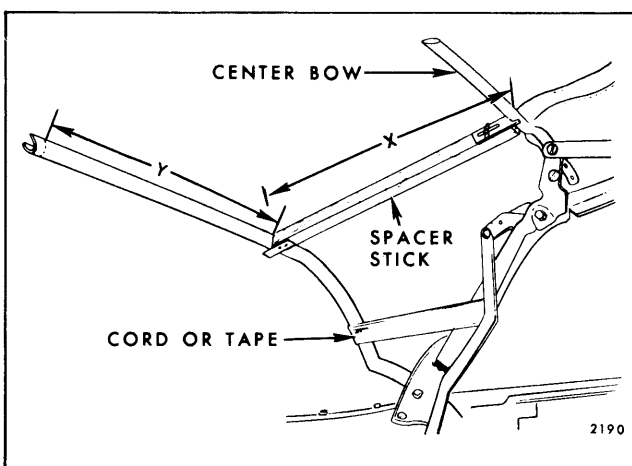
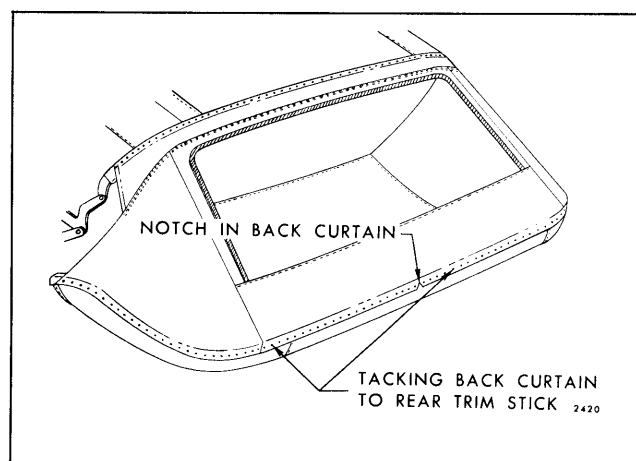

Fig. 13-47—Spacer Stick Installation
Fig. 13-48—Back Curtain Installation
1. Preset spacer sticks to shortest length and install between center and rear roof bow (Fig. 13-47). Adjust sticks so that dimension "X" in Figure 13-48 (measured along spacer stick from front upper rolled edge of rear roof bow to center of center bow) is 16-1/16" on "B & C" Styles, 18-1/2" on "A" Styles, 13-3/16" on "F" Styles, and 16-5/8" on "Z" Styles.
NOTE: Notch in back curtain material at lower edge indicates centerline of back curtain assembly. (See Fig. 13-48.) In addition, back curtain lower edge should extend approximately 1/2" below lower edge of trim sticks.
5. Tack curtain to rear trim sticks (Fig. 13-48).